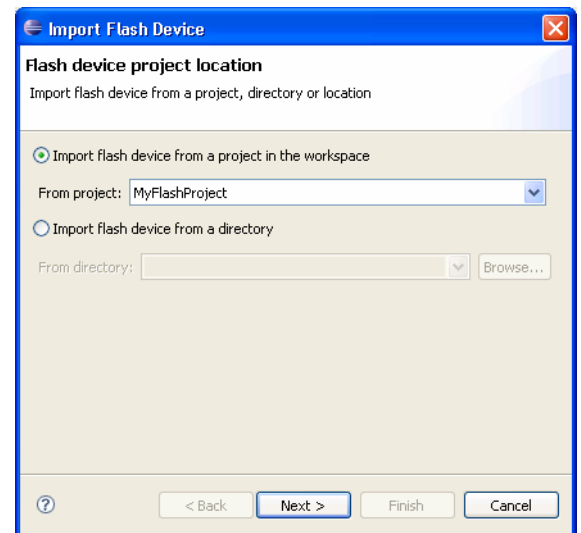

Figure 5 Importing a flash algorithm from a project
3. Select the project containing your flash algorithm from the drop-down list (see Figure 5). Click **Next**.